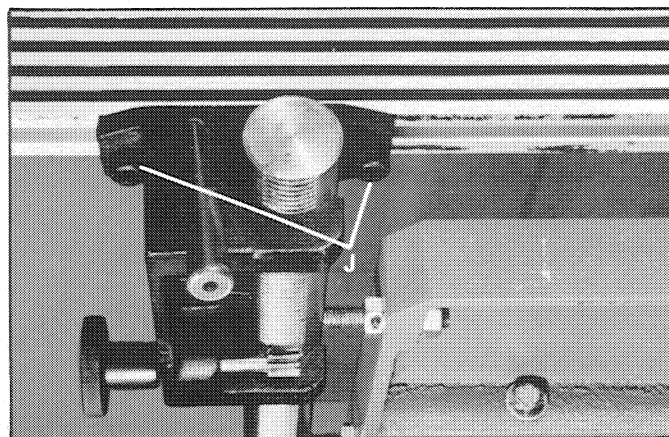

Fig. 43
When moving the fence to the horizontal or vertical position, or moving it lengthwise, front or back, loosen two screws (J) Fig. 43, and reposition the fence to the desired position.